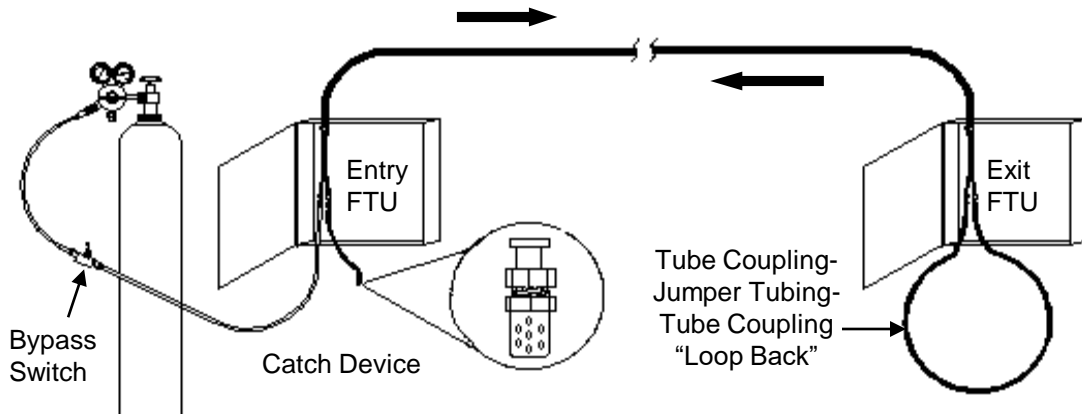

Figure 7
14.2 The basic procedure to test two (2) tube spans at the same time is identical to testing one tube span with the following exceptions. **See Fig. 7.**